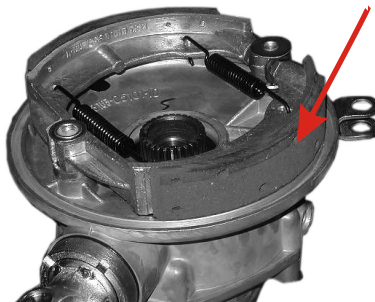

Fig. 91.
- Install brake shoes into the final drive matching marks made before (Fig. 91)